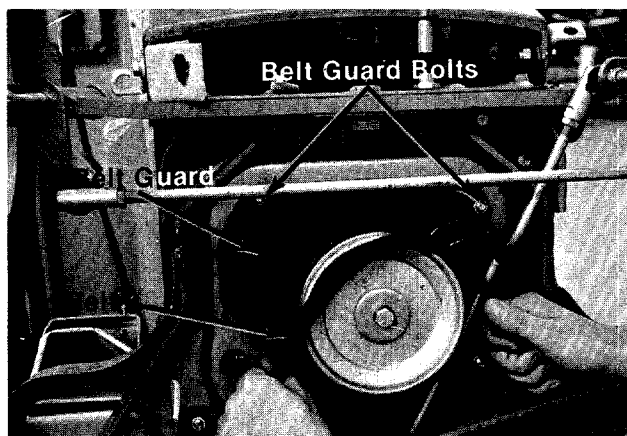

FIGURE 34.
3. Unhook the belt from the engine pulley. See figure 34.